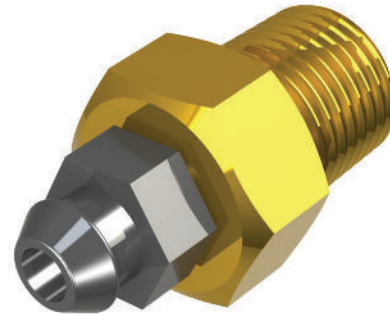
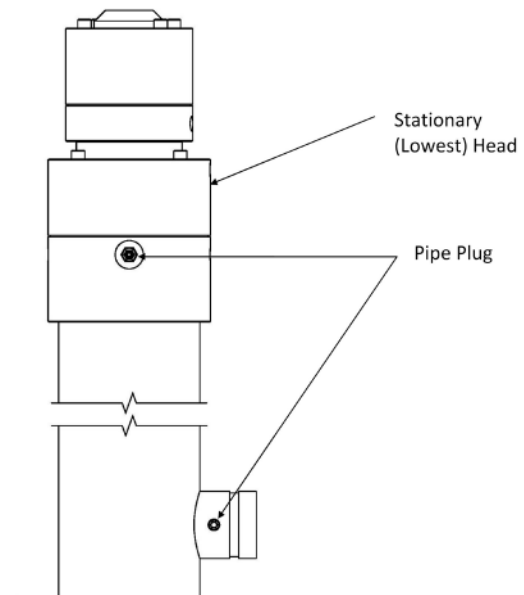

Figure 13: Air bleeder
Figure 14: Air bleeder location
- 2) Locate and remove the air bleeders (Figure 13) from their plastic pouch. Remove the pipe plugs from the jack inlet and the stationary (lowest) flange and install the air bleeders (Figure 14).